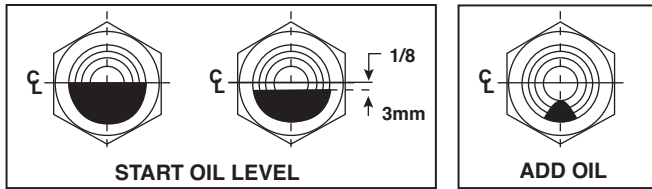

Figure 5 - Fill oil reservoirs to mid level of sight glass.
6. Oil is shipped with each new meter in a quantity sufficient to fill the meter body reservoirs in either a Top Inlet or a Side Inlet configuration. Slowly add oil to the meter body end reservoir until the oil level is to the center of the oil gauge (sight glass) as shown in Figure 5. Refer to Figure 6 for oil fill/drain plugs and sight glass locations. **DO NOT OVERFILL.**